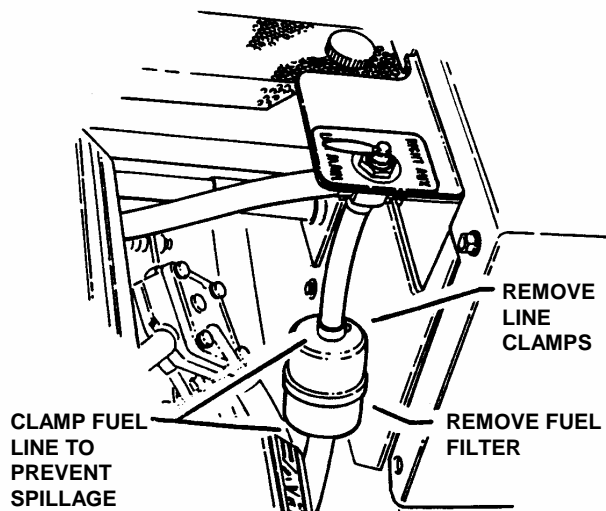

FIGURE 4.8
3. Install new fuel filter. Reinstall fuel line clamps. See Figure 4.8.